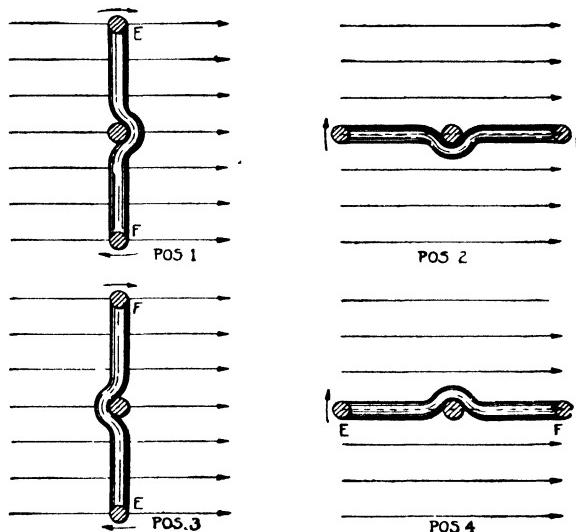

Fig. 8. Four Different Positions of a Loop as It Revolves in a Magnetic Field
**Action of Loop.** The arrangement just described may be greatly improved upon by revolving a loop of wire in a magnetic field, as shown in Fig. 7. Four positions of the loop are shown in cross-section in Fig. 8, and the e.m.f. induced in the loop for these different positions may be determined as follows: In position 1 the plane of the loop is perpendicular to the direction of the mag-
Since the value of e.m.f. or voltage produced in the conductors depends upon the number of "lines of force" crossed, these sine tables will tell us what part of the maximum voltage is produced at any position of the conductors or loop. These values can be plotted as a curve, Fig. 10, in which the maximum voltage produced (abbreviated  $E_{\max}$ ) in position 2 of the loop, Fig. 8, is multiplied by the sine of the different number of degrees. This curve, Fig. 10, is called a sine curve because the height of the curve above the zero line at different places is obtained by the use of these sine tables. The distances along the zero line, Fig. 10, are divided into degrees from zero to  $360^\circ$ , but only  $90^\circ$ ,  $180^\circ$ ,  $270^\circ$ , and  $360^\circ$  are marked; these correspond to the position of the loop in Fig. 8. The distances along the zero line correspond to the values of the angle  $\theta$ . Such a curve is called a sine curve.